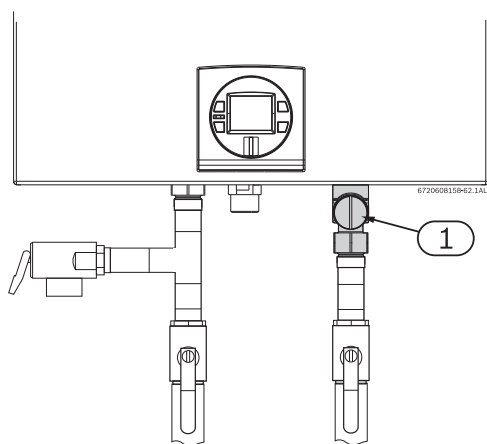

Fig. 28 Plumbing Connections (with shutoff valves) and Pressure Relief Valve
- ▶ **Full port shutoff valves should be installed on both the cold water supply and hot water outlet lines to facilitate servicing the heater (see Fig. 28).**
The location of the PRV must be readily accessible for servicing or replacement, and be mounted as close to the water heater as possible. See Fig. 28. To install the PRV, a suitable fitting connected to an extension on a "T" fitting can be sweated to the hot water line.